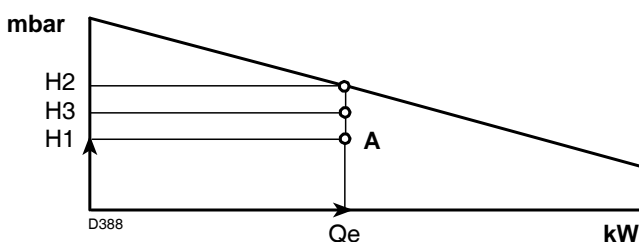

Fig. 39
point A that must remain within the firing rate (Fig. 39).
- 4 - Trace a vertical line from point A, Fig. 39, and find the maximum pressure H2 of the firing rate.
If H3 is greater than H1, as in Fig. 39, the burner can produce the delivery requested.